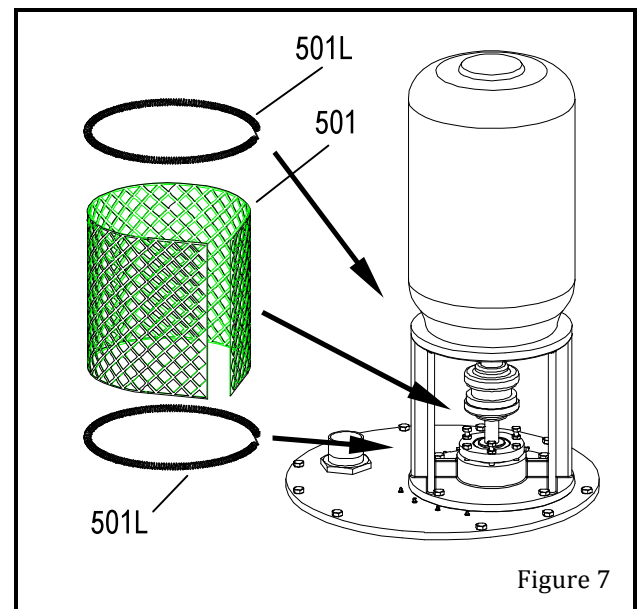

Figure 7
1. Install coupling guard (See Figure 7) by wrapping the expanded metal shield (501) around the motor support and installing the two guard springs (501L).